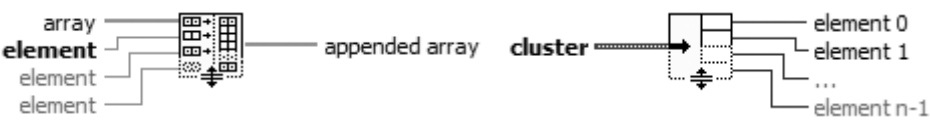

Figure 7.22
- Depending on how you configure it, **Build Array** concatenates, or combines, two arrays into one, or adds extra elements to an array. The function looks like the icon at left when first placed in the diagram window. You can resize or “grow” this function to increase the number of inputs. **Build Array** has two types of inputs, *array* and *element*, so that it can assemble an array from both array and single-valued inputs (see Figure 7.22).